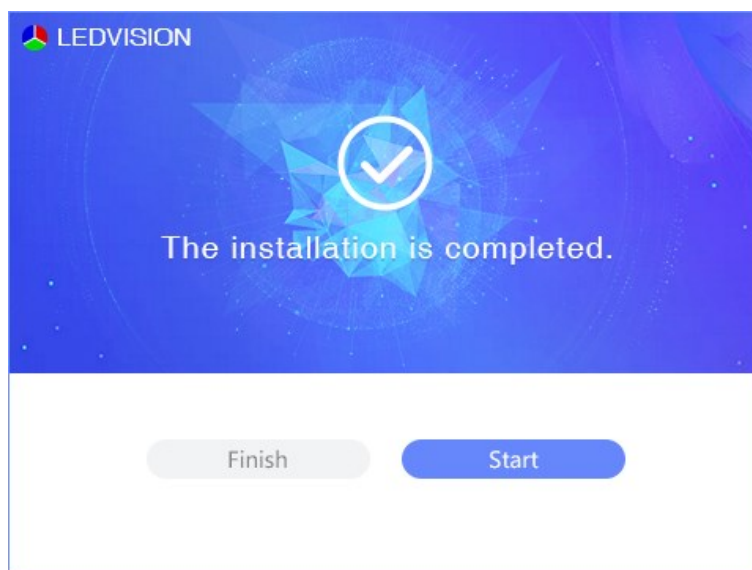

Fig 1.2.3 Installation completion
Step 2: Installation is completed as shown in Figure 1.2.3. After a successful installation, LEDVISION and LEDSetting shortcuts are created on the desktop. LEDVISION is the playback software and LEDSetting is the control software.